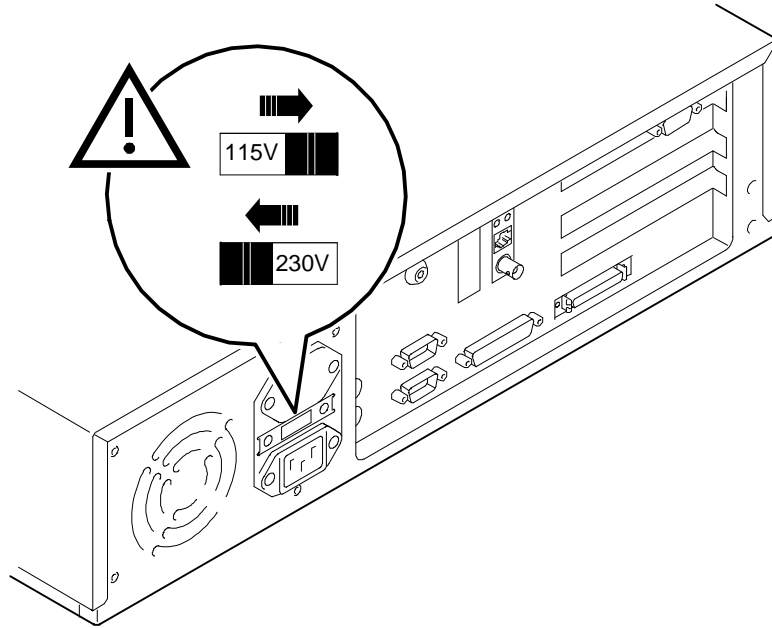

Figure 2-3 Voltage Selector Switch
1. Confirm that the voltage selector switch matches your local voltage (either 115 volts or 230 volts), as Figure 2-3 shows.